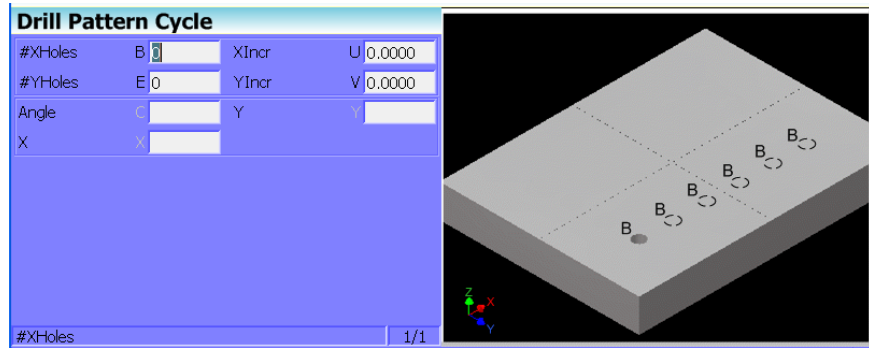

Figure 4-7, Drill Pattern Cycle Graphic Menu
2. Select **Pattern** from the **Drill** pop-up menu and press **ENTER** to display the Drill Pattern Cycle Graphic Menu. Refer to **Figure 4-7**.